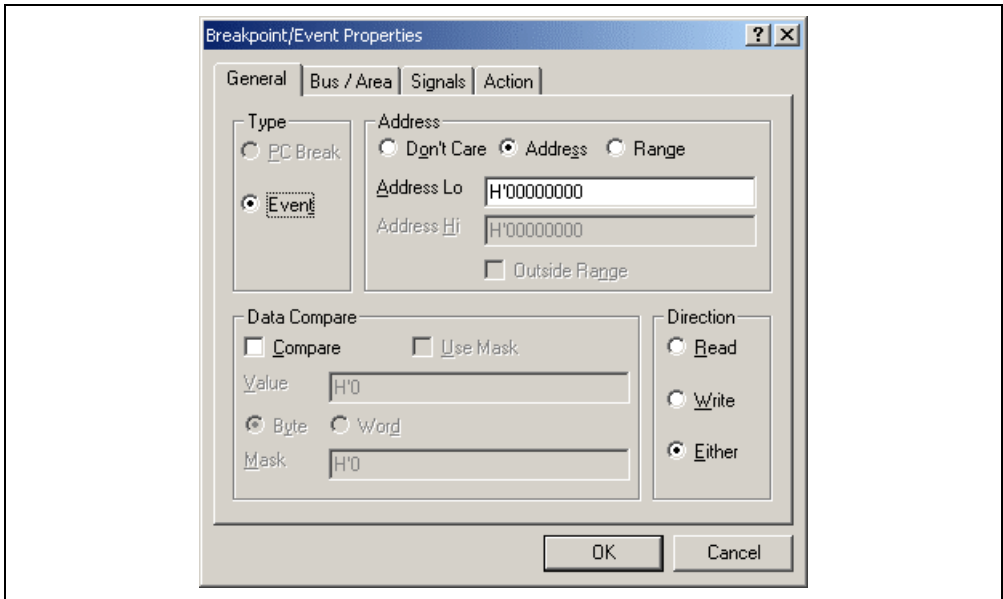

Figure 6.42 [Breakpoint/Event Properties] Dialog Box
- (2) Register the address range for trace acquisition as an event condition. Click the [Add...] button in the [Trace Events] group box on the [General] page to display the [Breakpoint/Event Properties] dialog box (see figure 6.42, [Breakpoint/Event Properties] dialog box).
- (3) Click the [Range] radio button in the [Address] group box on the [General] page of the [Breakpoint/Event Properties] dialog box. Use the [Locals] window to refer to the address on the line where variable `a`, which is defined within the tutorial function, is allocated (`H'00FFEF80` in this example) and enter this address in the [Address Lo] edit box. Then enter an address, which is `H'27` added to that entered in the [Address Lo] edit box (`H'00FFEFA7` in this example), in the [Address Hi] edit box. This procedure sets the memory range for variable `a` of the tutorial function.
- (4) Click the [Write] radio button in the [Direction] group box to set a write cycle for the specified range. This completes the setting of a memory range. Click the [OK] button to close the [Breakpoint/Event Properties] dialog box.